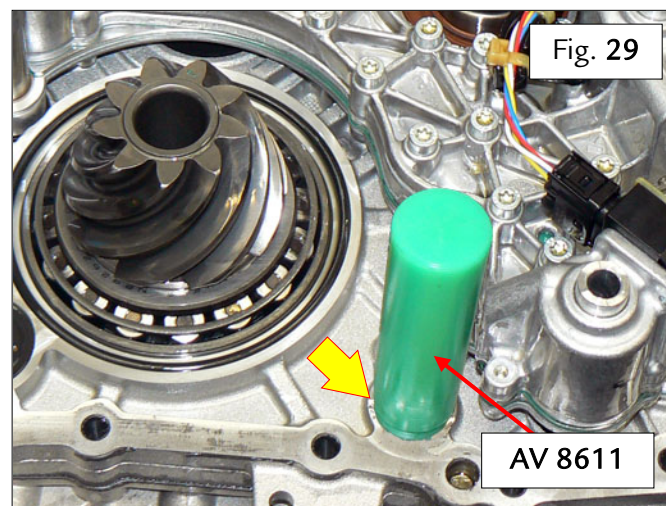

Fig. 29
- Remove the indicated O-ring and close the orifice on the interface plate with the plug 95978611 (AV 8611) – Fig. 29.